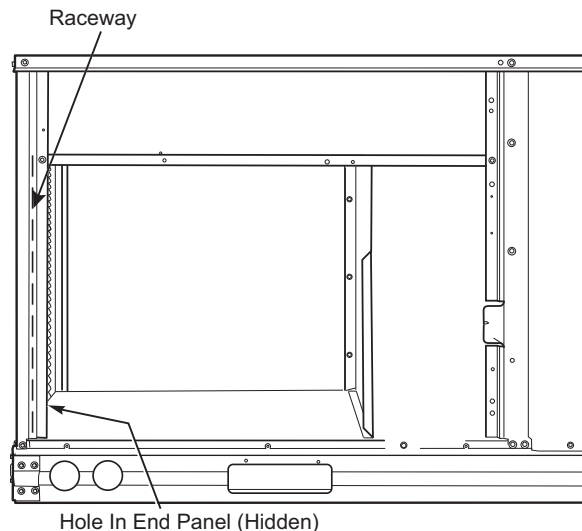

Fig. 29 — Field Control Wiring Raceway
Pass the thermostat control wires through the hole provided in the corner post, then feed the wires through the raceway built into the corner post to the control box. Pull the wires over to the terminal strip on the upper-left corner of the Unit Control Board. See Fig. 29.
2. Feed wires through the raceway built into the corner post (see Fig. 29) to the 24-v barrier located on the left side of the control box. The raceway provides the UL-required clearance between high-voltage and low-voltage wiring.